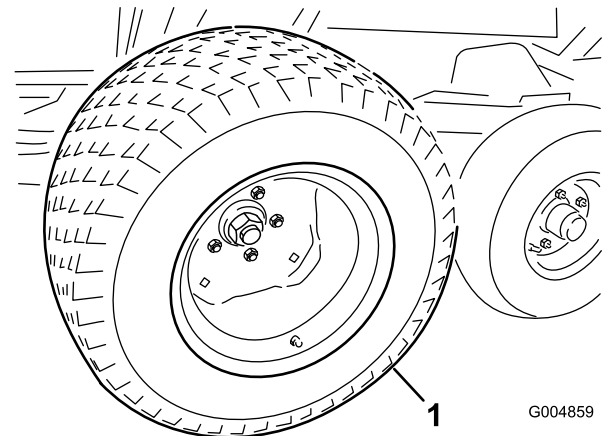

Figure 112
21. With the winter frame against the rear frame, raise the floor jack enough to remove the summer drive tires (Figure 112). Install the winter tires with 2 lug nuts per side.